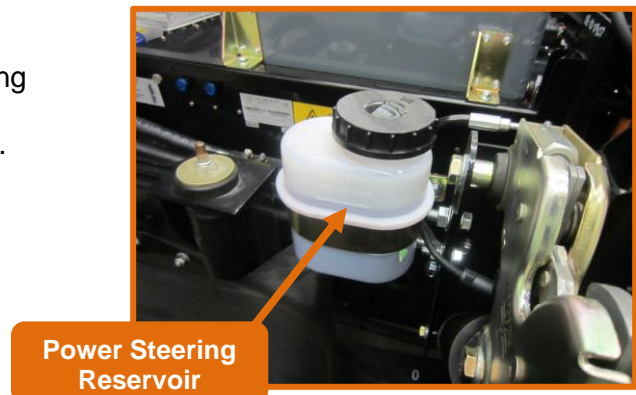

Figure 10.5
- ✓ Check fluid level in power steering reservoir and maintain level to **FULL** mark with Dexron/Mercon. Accessible under cab (Figure 10.5).